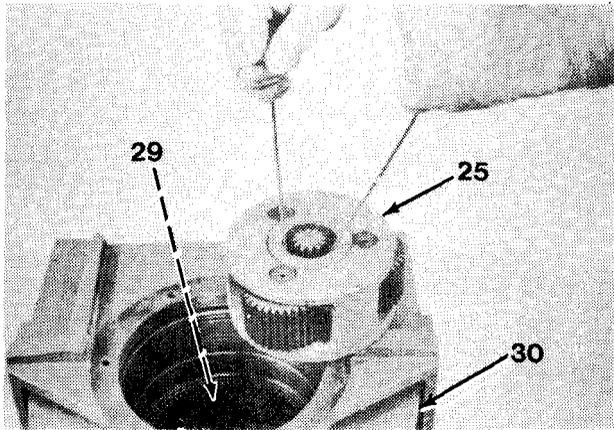

Figure 16-20
11. Install output planet carrier (25) into drum closure (30) while meshing planet gears with ring gear and planet carrier with bearing support (29, Figure 16-20).